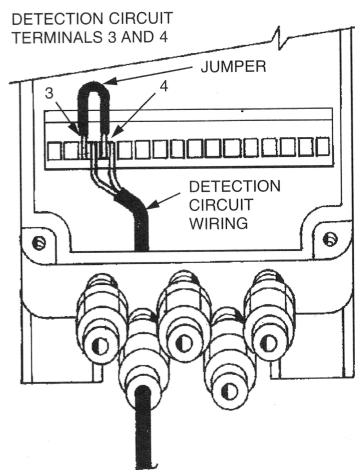

FIGURE 1
4. Using a short length of insulated wire stripped at both ends, hold one end of the wire to detection Terminal 3 and hold the other end to detection Terminal 4. See Figure 1. **Note:** When jumping these terminals, the squib will detonate, causing a small popping sound.